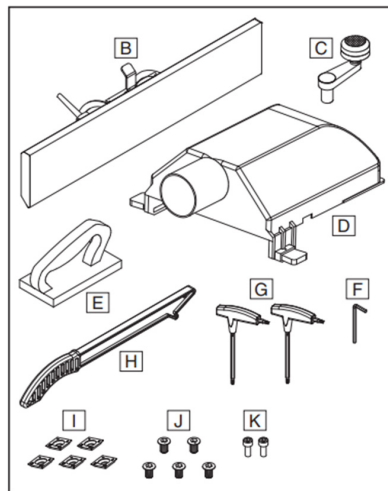

Figure 4: BBJP8 accessories inventory.
Please refer to figure 4 and the hardware recognition chart on page 26.
**Box 1 (Fig 4)**